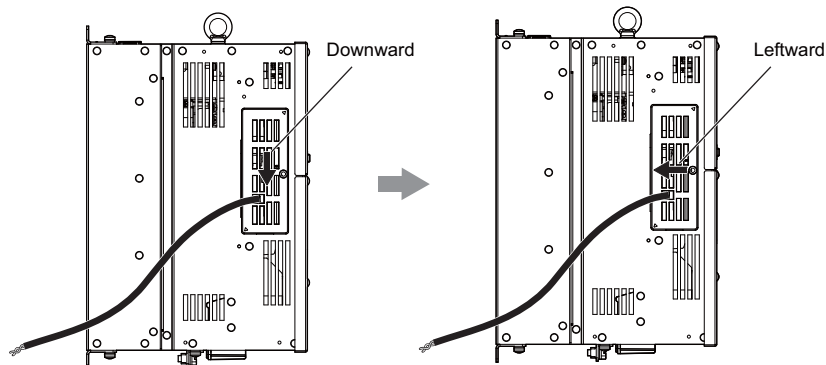

Figure 4.32 Sliding the Connector Cover into Place
- Slide the connector cover back into place as shown in Figure 4.32.